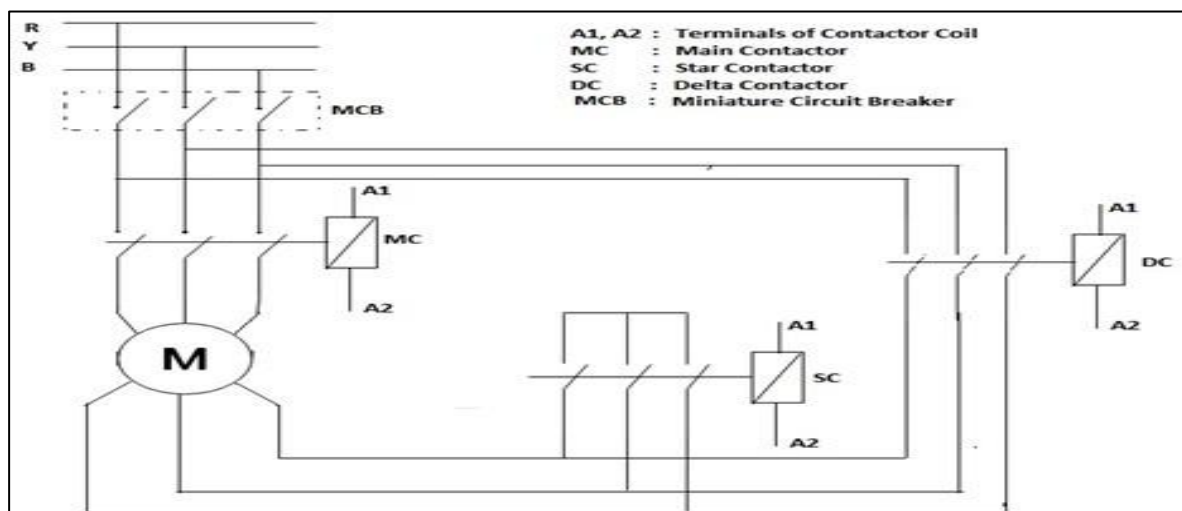

Fig:16 Electrical connection of direct online (DOL) Direct online (DOL) starter diagram
1. Analyze about the components and operation of star-delta starter for fig.16 using ladder diagram in terms of concepts.